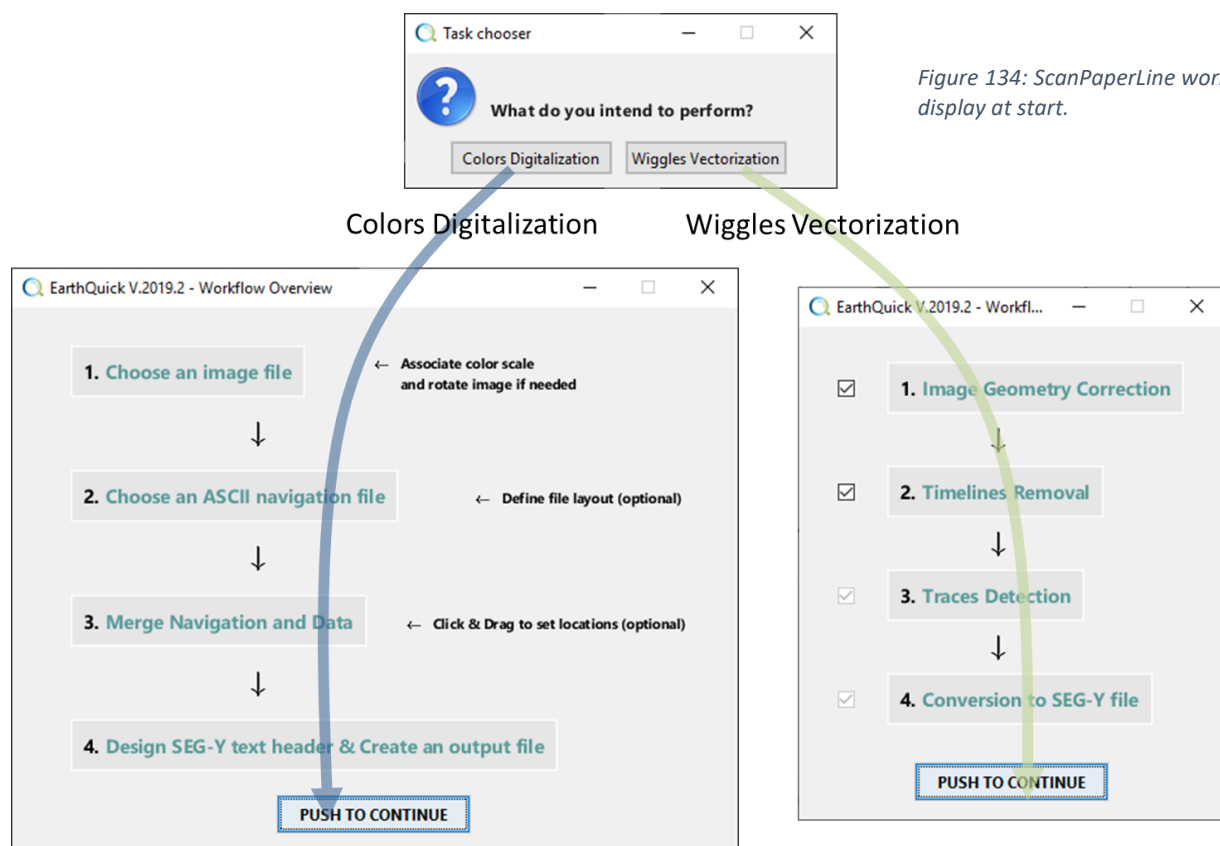

Figure 134: ScanPaperLine workflows display at start.
As shown in Figure 134, the workflows proposed by the module allow both digitalization and vectorization of data.
Steps quoted by the workflow reminder on Figure 134 are such as:
- After loading the input image (including rotation possibilities), warping, adapted to the current data kind, is proposed. That step remains optional and skipped if not ticked on in the workflow reminder (see Figure 134),
- Removal of timelines is the following optional steps if images are marred by timelines, often occurring every 100ms on seismic sections. That is also skipped if not ticked on in the workflow reminder (see Figure 134),